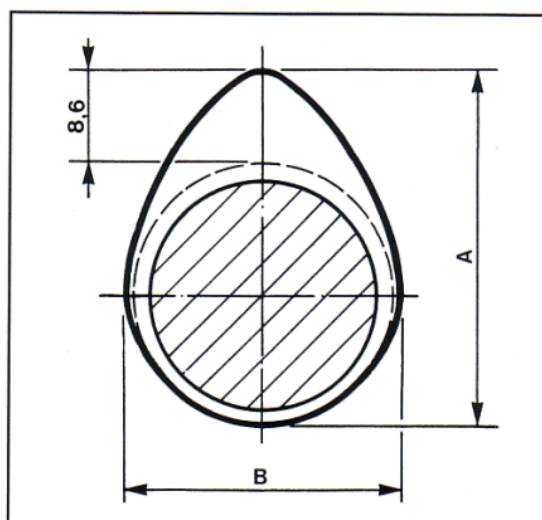

Fig. 8 ▲
**NOTE.** In all engines, the lift value is the difference between distances "A" and "B" indicated in figure 8.